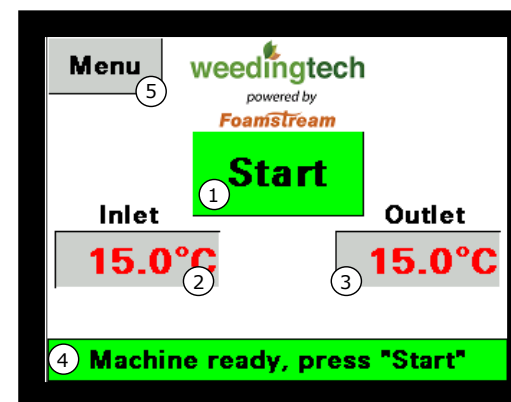

Figure 14 - Start screen of the PLC
- ✓ Wait until the purge is completed. A new screen will appear, represented in Figure 14.
When the M1200 is ready to start, the screen below will appear (same as Figure 14)